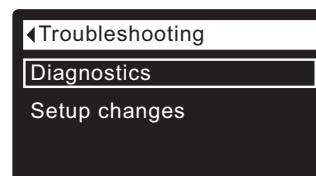

FIG. 82
2. To display the Diagnostics screen from any of the rolling status screens (when an error code is not displayed), press the SELECT (O) button to display the **Main menu**.
4. Press the SELECT (O) button to display the Advanced settings menu.
6. Press the SELECT (O) button to display the Troubleshooting menu (See Figure 82).
1. From any of the rolling status screens, press the SELECT (O) button to display the **Main menu**.
3. Press the SELECT (O) button to display the Advanced settings menu.
5. Press the SELECT (O) button to display the Troubleshooting menu (See Figure 82).
- **Cancel** will return to the Troubleshooting menu (Figure 82).
9. Press the SELECT (O) button.